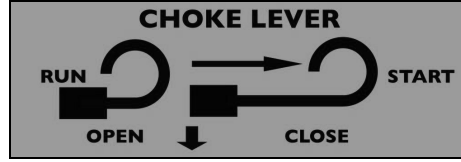

Figure 13- Pull choke out for closed position.
5. Move the choke rod to the “Start” position (see figure 13).
5. Move the choke lever to the “CLOSE” position (see figure 13).